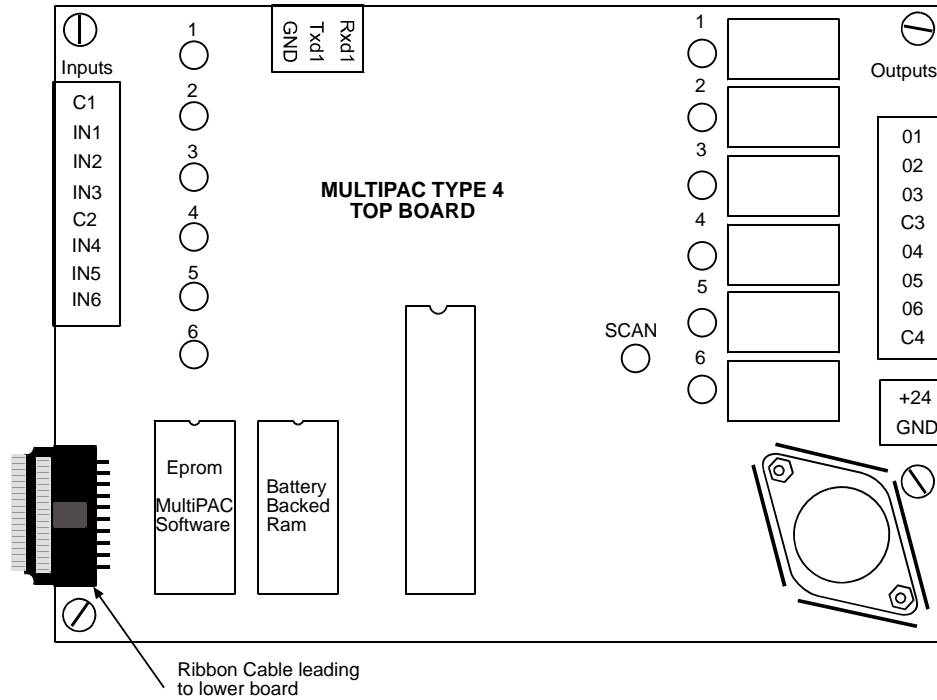

Figure 2-6. MultiPAC Type 4 top PC Board layout
3. Prepare wires to be inserted into connectors by stripping off approximately ¼ inch of insulation. Locate the connector on the top of the power supply. Refer to figure 2-6 through 2-9 for its exact location.
7. Locate DC power connector located on MultiPAC PC board. Refer to figure 2-6 & 2-8 for its exact location. It is marked +24 and GND.
2. Wire connections as shown in the table below and wiring diagram at the end of this Manual. Locate TB103 at the SmartPAC Board (consult your SmartPAC manual) and the connector on MultiPAC Board marked with Rx, Tx, and Com (Port 1). Refer to Figure2-6 for its exact location.
1. Locate input #1(pin #2) on your MultiPAC PC Board. Refer to figures 2-6 & 2-8 for its exact location.